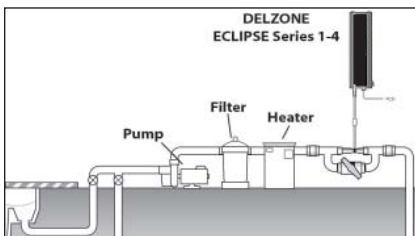

Figure 2 DEL Injector Manifold Mounting Location
2D-1. Plumbing the Injector Manifold: The Injector Manifold must be installed in the pool's main return line after all other pool equipment (pump, filter, heater, and cleaner). Figure 2 shows the most basic installation. For installation with additional sanitizers and pool cleaners contact DEL Technical Support (see section 4E).
3. Adjust the injector manifold valve (if applicable) to half open (45°) as shown in Figure 2.